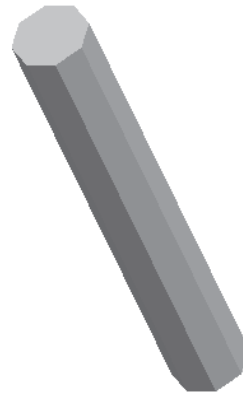

Figure 8-101 Octagonal sketch after extruding
5. Exit the sketcher environment and extrude the sketch to a depth of 1500. The base feature is, as shown in Figure 8-101.